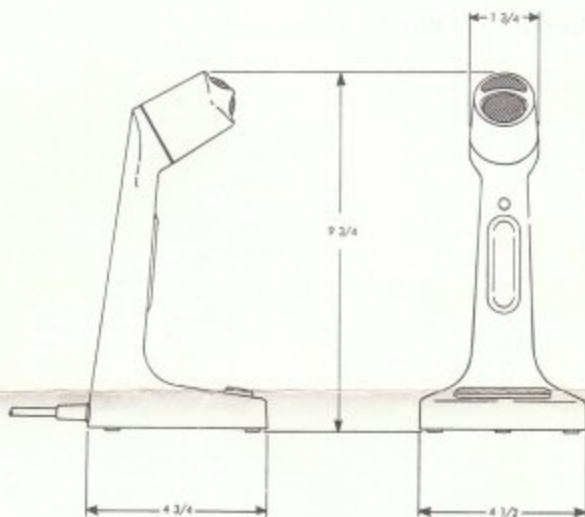

Figure 1 – Dimensions
3. Slip cable strain relief "H", Figure 1, from slot.
4. Remove screw "A", Figure 1, and gently lift switch assembly "B" and red switch bar "C" away from microphone housing.